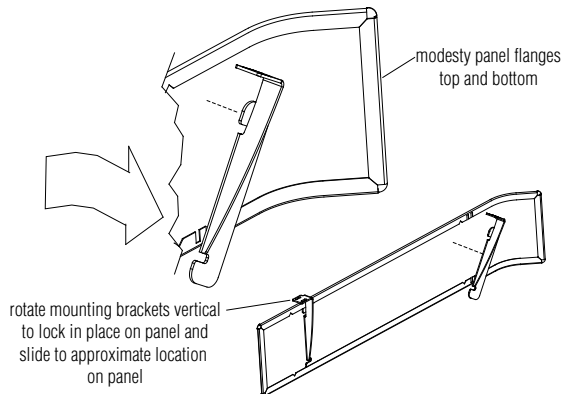

Figure 27
2. Rotate mounting brackets at an angle to fit between panel flanges. Rotate mounting brackets vertically to lock in place on panel (Figure 27).